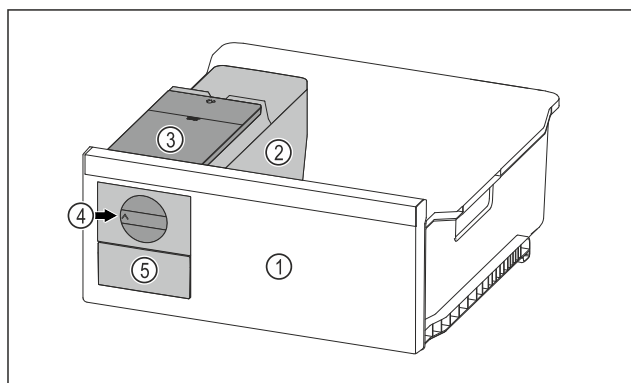

Fig. 70 Example illustration
- Turn the rotary knob *Fig. 70 (4)* clockwise as far as it will go.
- ▶ Ice cubes fall from the ice cube tray into the ice cube drawer *Fig. 70 (5)*.